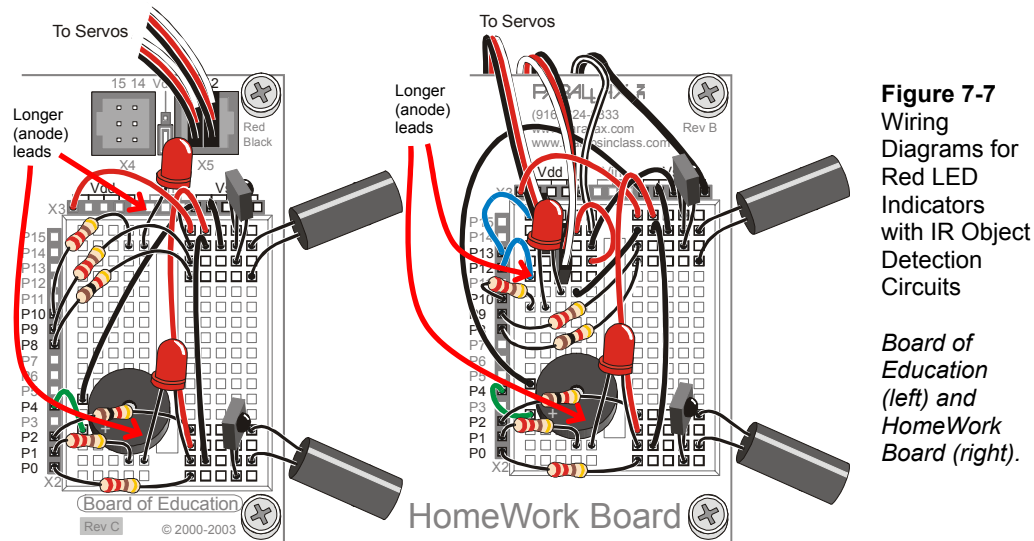

Figure 7-7
- (2) Resistors – 220 Ω
- ✓ Build the circuit shown in Figure 7-6 using Figure 7-7 as a reference.